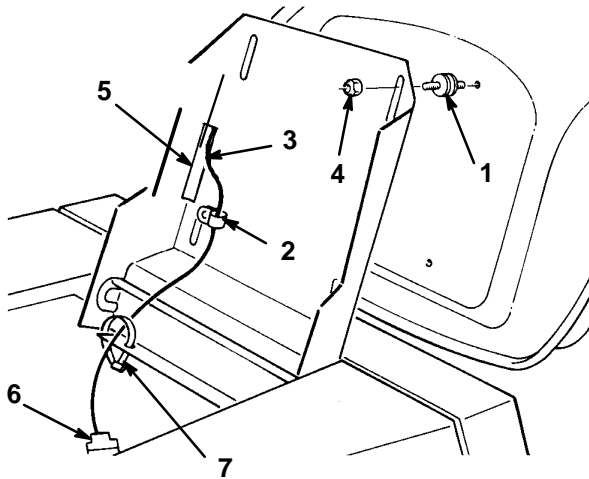

Figure 3
1. Thread (4) seat spacers into bottom of seat (Fig. 3).
2. Position seat onto seat base, inserting seat switch cable thru slot and spacer studs through mounting holes (Fig. 3).
3. Slide wire clamp over seat switch wire (Fig. 3).
4. Using left front spacer stud, loosely secure wire clamp and seat to seat base with a locknut (Fig. 3).